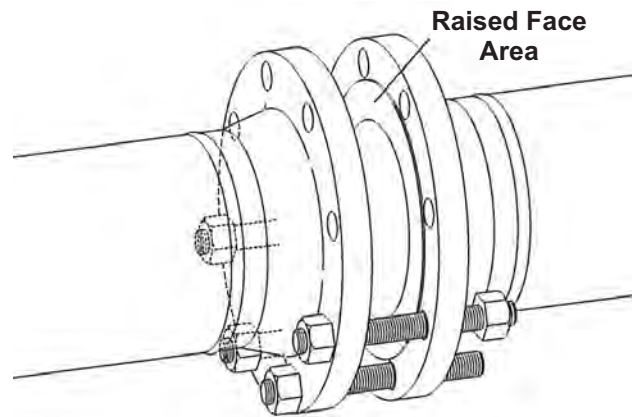
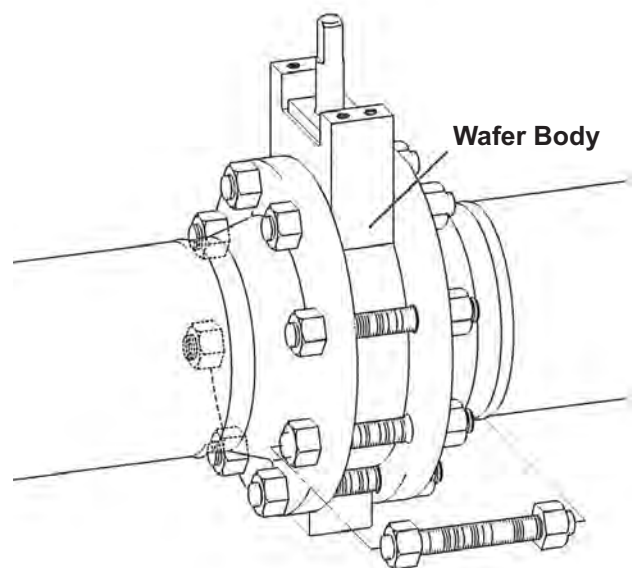

Figure 10
Figure 11
2. When installing wafer body valves, install lower flange bolts without tightening (Figure 10). Position valve and flange gaskets between flanges, within the pocket formed by the flange bolts. Install the remaining flange bolts, taking care that the gaskets are centered on the flange faces (Figure 11).
5. Tighten all bolts or capscrews in a crossover or star pattern to insure even sealing (Figures 11 and 12).